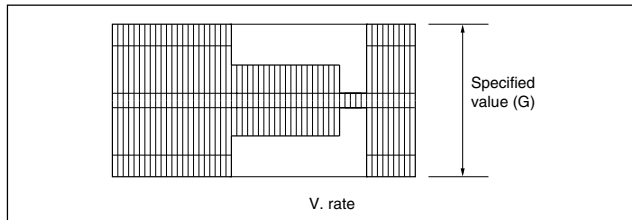

Fig. 3-3-3b REC color (colour) level
- Apply the external trigger signal to D.FF (E) to observe the PB color (colour) waveform at the measuring point (D2).
- (7) Set the VCR to the EVR mode by transmitting the code (F1) from the Jig RCU.
- (8) Set the EVR address to (F2) by transmitting the code (F3) from the Jig RCU.
- (9) Transmit the code (F4) from the Jig RCU to adjust so that the higher level channel becomes the specified value (G) of the note "B" level as shown in Fig. 3-3-3b. (Adjust before recording, then confirm it by playing back.)
- (10) After adjustment, record the signal (A3) then playing it back again. At this time, confirm that there is no inverting phenomenon or noise appearing on the playback screen.
- (11) Release the EVR mode of the VCR by transmitting the code (F1) from the Jig RCU again. (When the EVR mode is released, the adjusted data is memorized.)
- (12) Repeat steps (3) to (11) in the mode (B2).